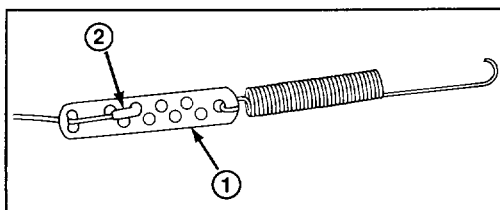

Figure 10
3. **ADJUST CABLE** (Fig. 10)—Unhook spring end from the bottom hole in control bar bracket. Slide spring cover off cable to expose cable adjuster. Unhook Z fitting from cable adjuster and reposition Z fitting in a higher or lower hole on adjuster to obtain proper gap of 1/16"–1/8". Reinstall spring cover over cable adjuster. Rehook spring onto bottom hole of control bar bracket.